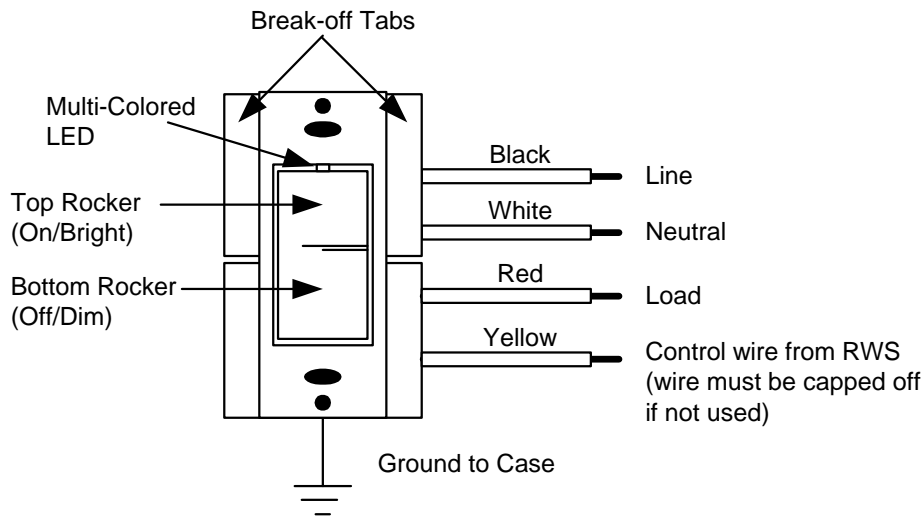

Figure 1: WS1E Wall Switch Dimmer
The WS1E Wall Switch Dimmer (Figure 1) is a high quality light-switch/ dimmer that not only allows for local rocker switch control of *electronic low voltage* AC lighting ballasts or transformers but also incorporates PCS's innovative UPB™ two-way powerline communication technology that gives it the ability to be remotely controlled by other UPB™ compatible controllers. The WS1E is highly configurable to allow for behaviors customized to each individual's desires. The WS1E is capable of storing up to 16 preset light levels and fade rates to create powerful lighting scenes. The WS1E is also capable of transmitting UPB™ messages (including a current light level report) when rocker switch events occur. The WS1E is capable of being set to a non-dimming mode in order to control such loads as fluorescent lights.
- 1. Refer to Figures 1 and 2 to determine the wire colors of the hook-up.
For a proper fit in a multiple gang installation, it may be necessary to remove one or both sides (break-off tabs) from the mounting plate (see Figure 1). When tabs are removed, the overall rating of the device must be reduced in accordance with the following chart: